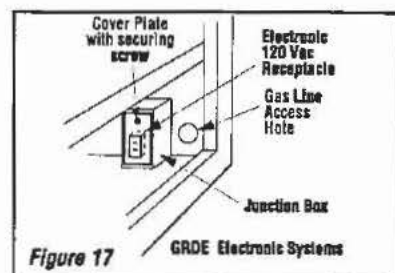

Figure 17
2. Remove the junction box cover plate from inside the unit by removing the plate's one securing screws. See *figure 17*.